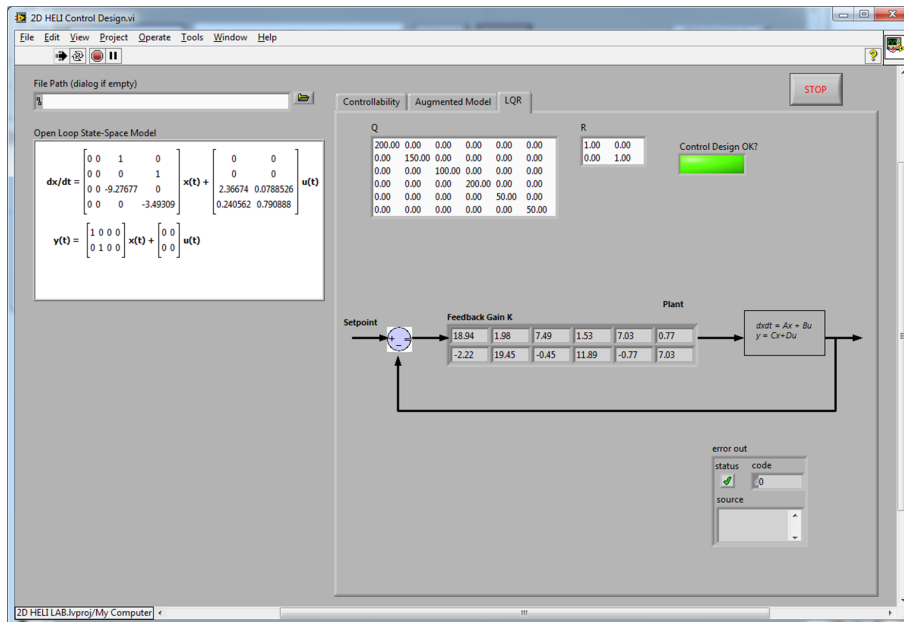

Figure 5.7: LQR controller design
- Click on the LQR tab and verify that the generated feedback gain K will stabilize the system, as shown in Figure 5.7. You can change the Q and R matrices to adjust the weighting parameters of the LQR controller design.